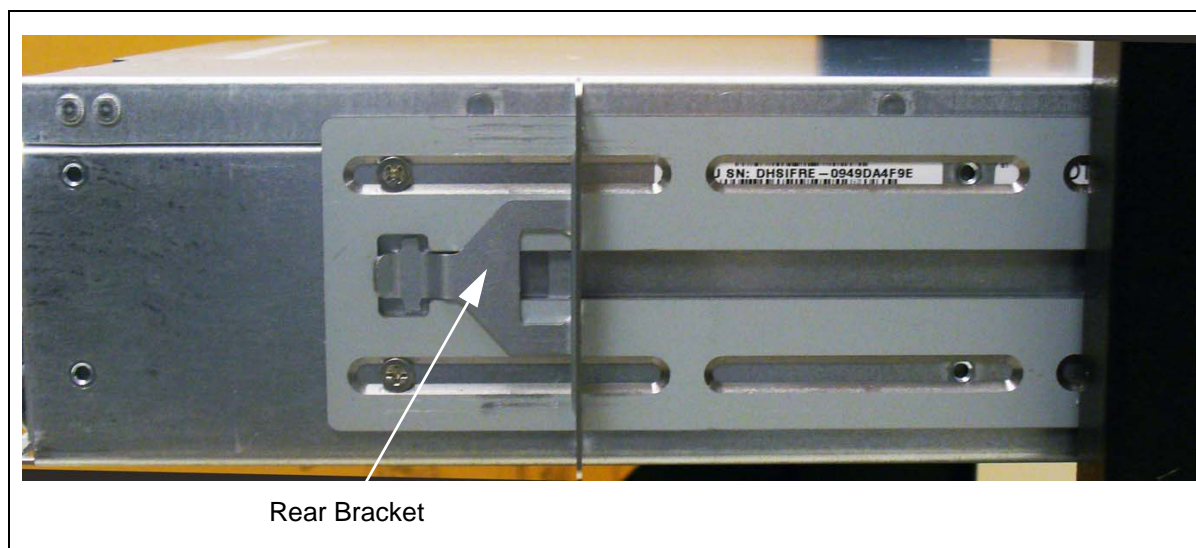

Figure 2.17 - Inserting Rear Bracket into Enclosure Main Bracket
4. Insert the rear brackets into the main bracket as shown in **Figure 2.17**.